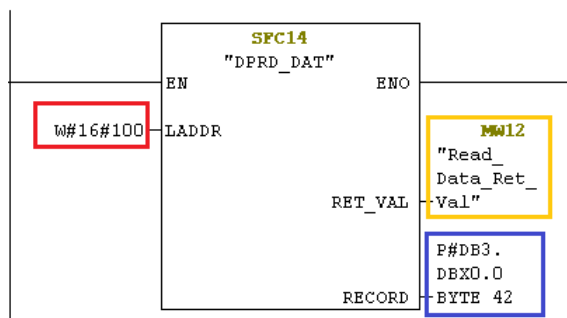

Figure 1: SFC14
- a) The **LADDR** parameter selects the PROFINET I/O module from which data will be read. As shown in the Figure 1, the starting address for the NX2A4E2 input area is 256, which is 100hex.
- b) The **RECORD** parameter defines the target **Data Block (DB)**, which will contain the NX2A4E2 Input Data that is read by this function. Set the pointer to the beginning of the data block (P#DB3.DBX0.0) and define the data length (BYTE 42).